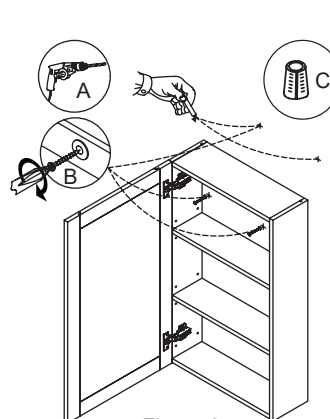

Figure 3
- 5: Secure the medicine cabinet to the wall by inserting (x 2) #8 x 2 in. screws (B - not included) through the back rail of the medicine cabinet. Figure 3.